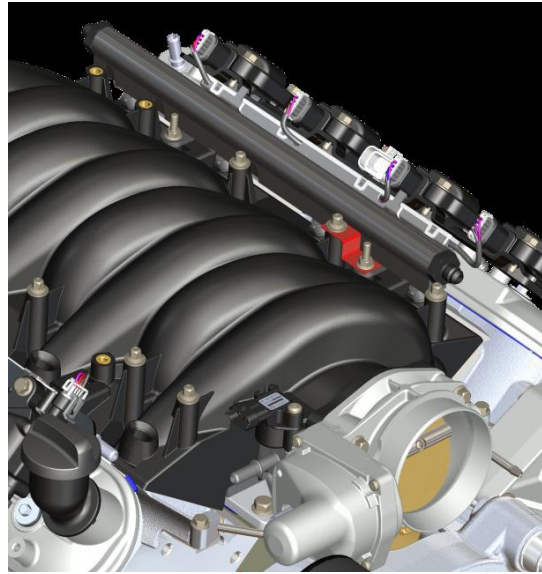

Figure 6
16. Reinstall the four rail mounting bolts. Add a grounding strap for each fuel rail from one of the intake bolts to a rail mounting bolt (Figure 6).